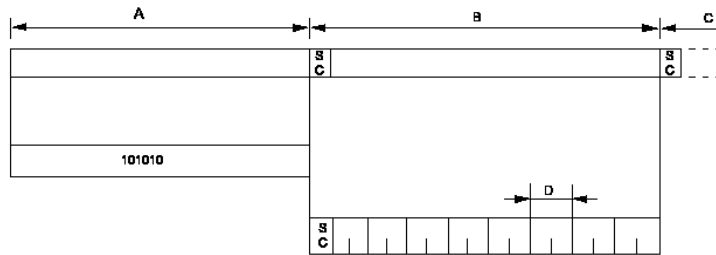

FIGURE 1 - Signal format
A transmission consists of a preamble followed by batches of complete codewords, each batch commencing with a synchronization codeword (SC). The format of the signals is illustrated in Fig 1. Transmission may cease at the end of a batch when there are no further calls.